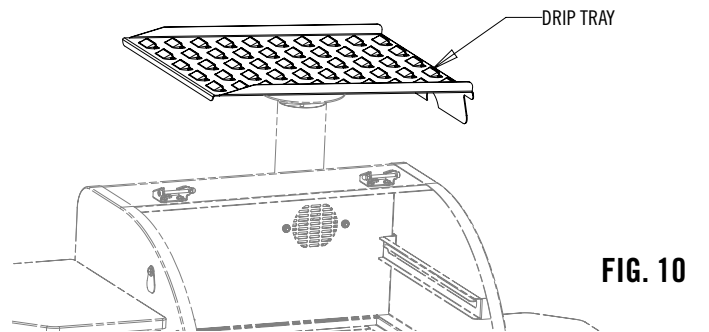
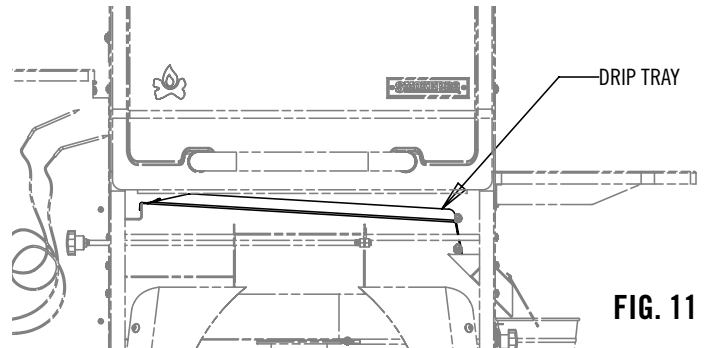

FIG. 10
FIG. 11
1. Install the Drip Tray as shown in Fig 10 and Fig 11.